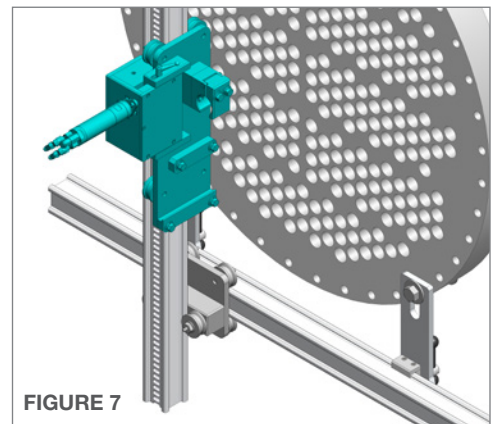

FIGURE 7
7. Loosen the **Quick Adjust Handle** and pull the gearbox away from the carriage plate. This will allow the **Vertical Drive Carriage** to slide onto the rail without pneumatic power to rotate the drive. Center the carriage on the vertical rail and push the gearbox back toward the carriage plate. This will engage the gear into the rail slots. Verify the gear is engaging the slots correctly and retighten the adjustable handle. **(Figure 7)**